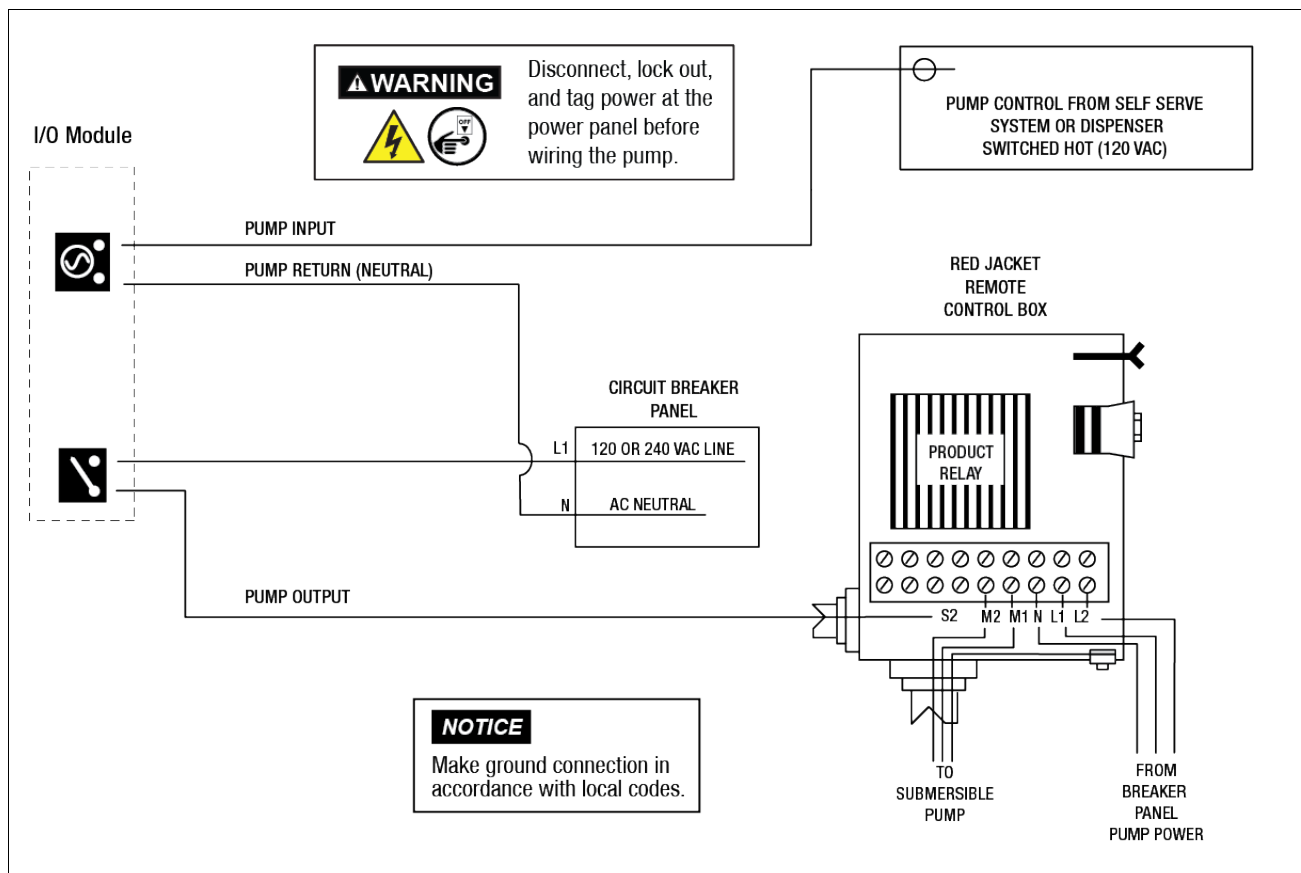
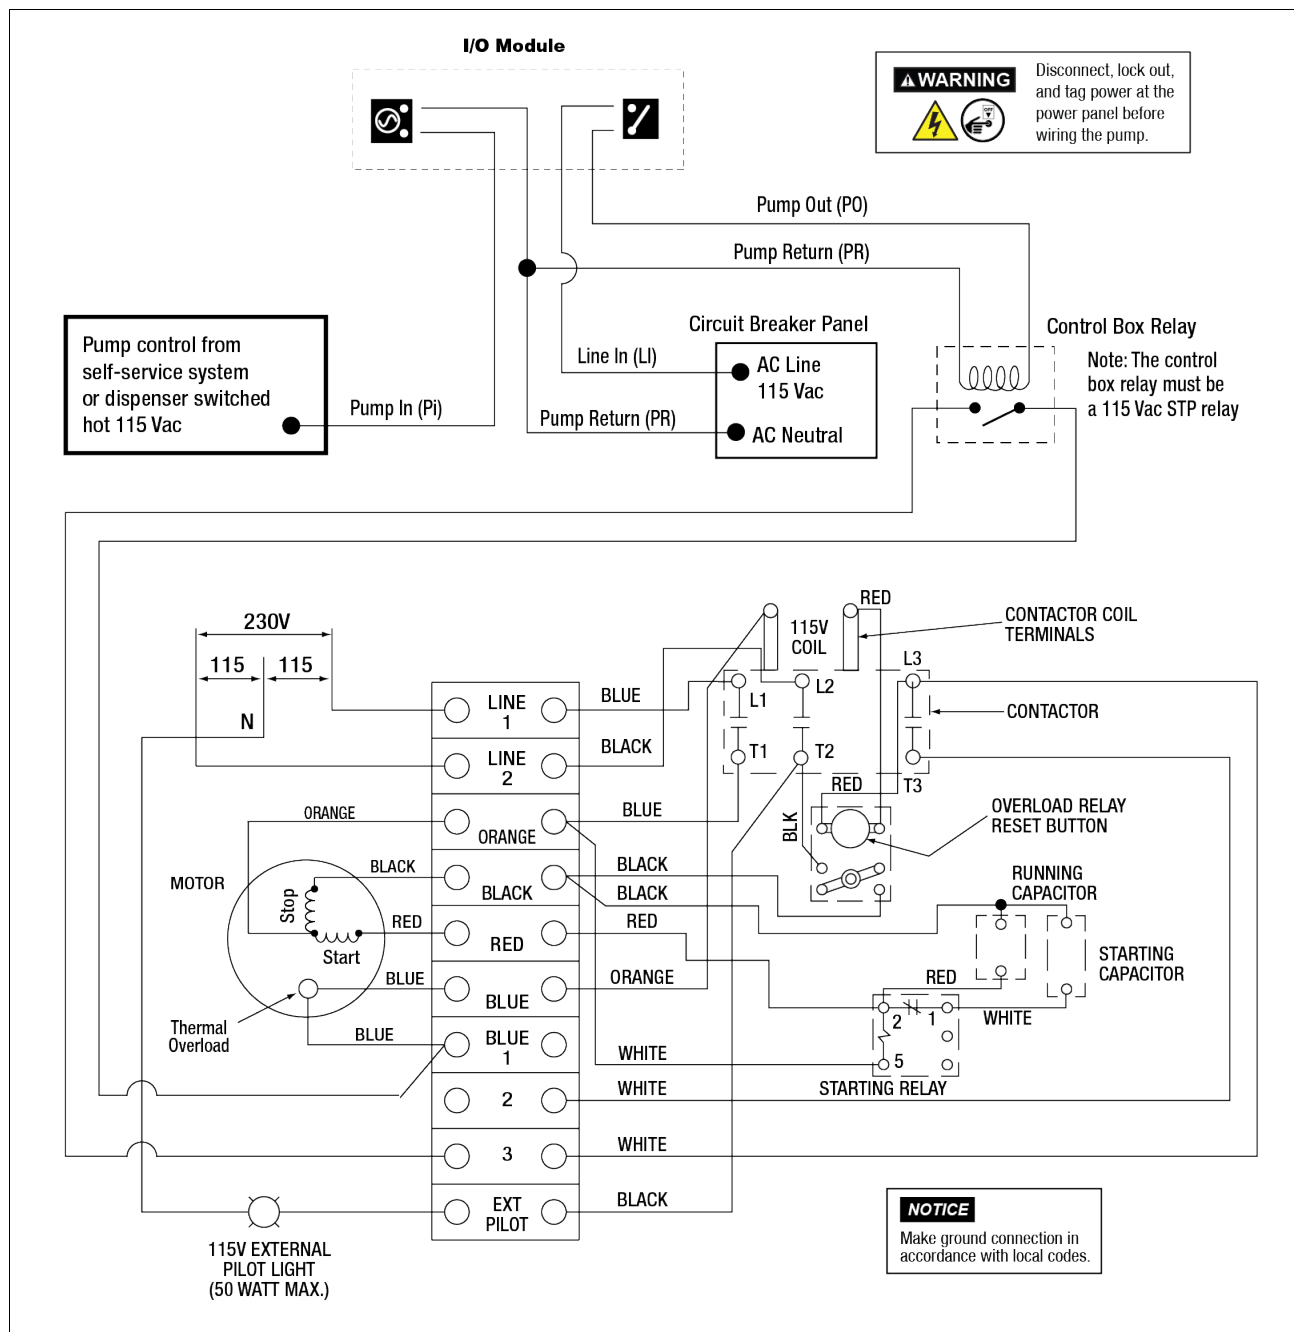
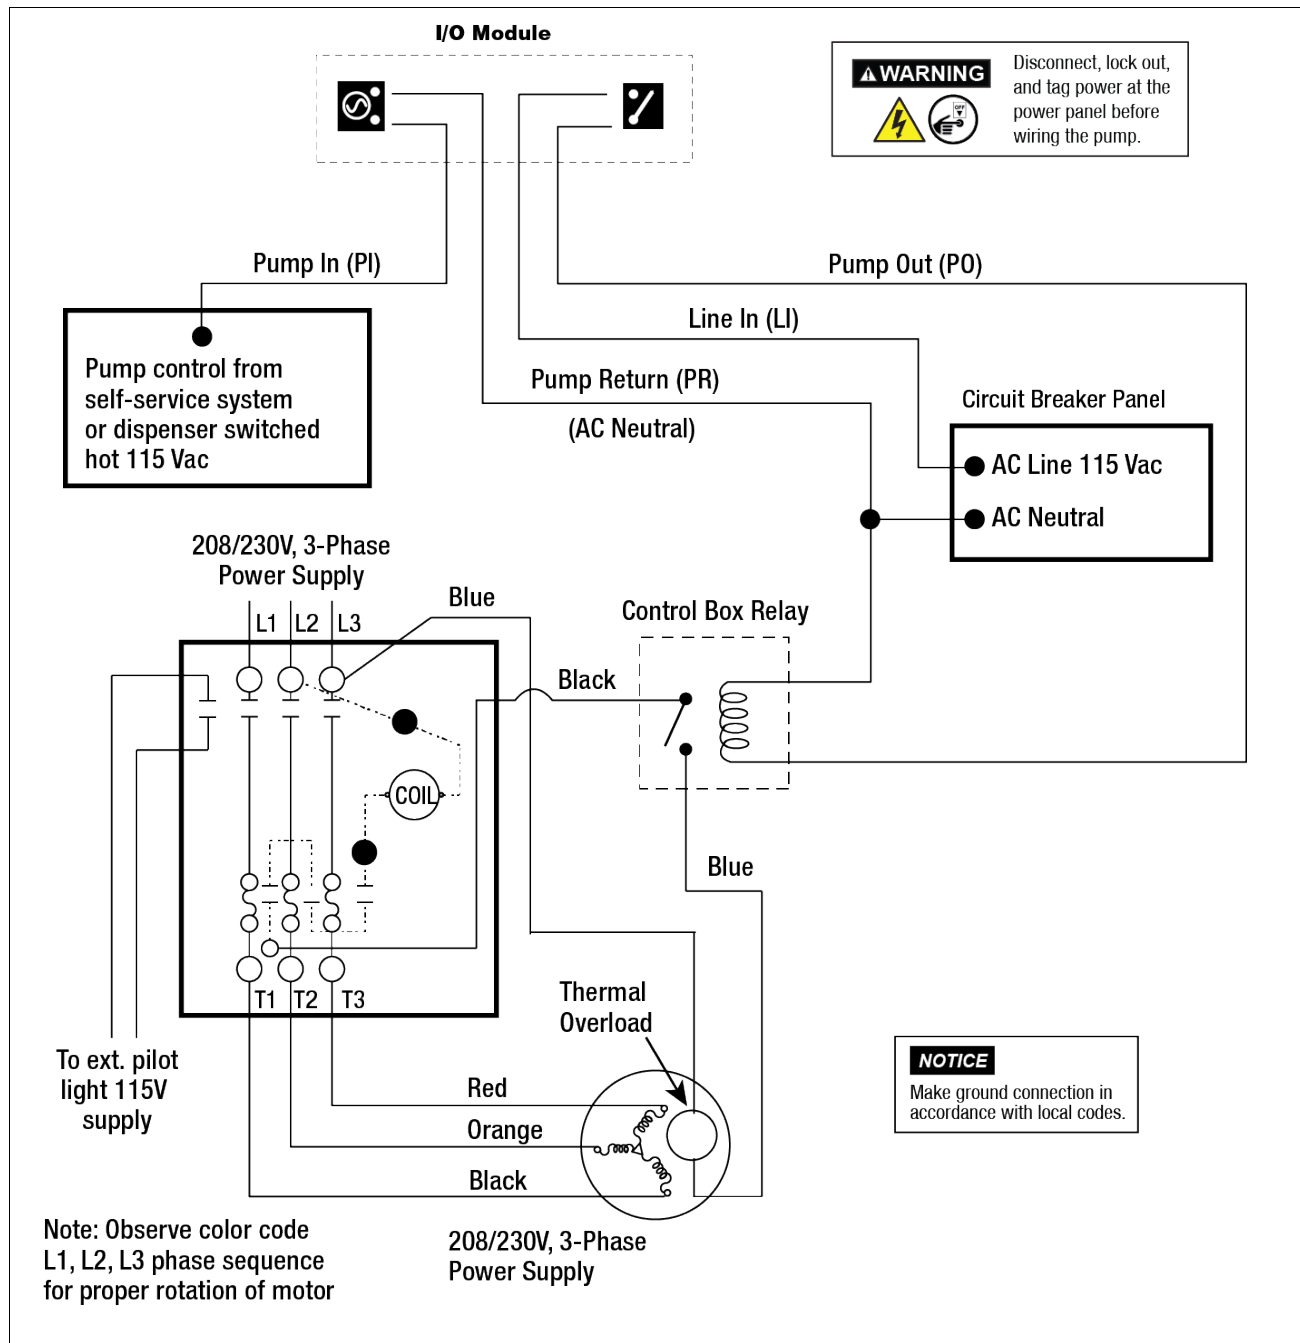

Figure 20. DPLLD Pump Control Diagram For Red Jacket Relay Control Box
Figure 21. Red Jacket Maxxum Big-Flo Single-Phase Wiring
Figure 22. Red Jacket Maxxum Big-Flo 3-Phase Wiring
- Red Jacket (ref. Figure 20, Figure 21, and Figure 22)